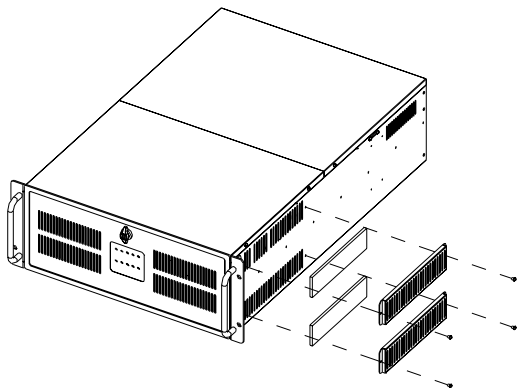

Figure 3-3: Replacing the filter on both sides of the chassis
1. Remove the two screws located on the edges of the filter cover and pull it up. Please see *Figure 3-3*.